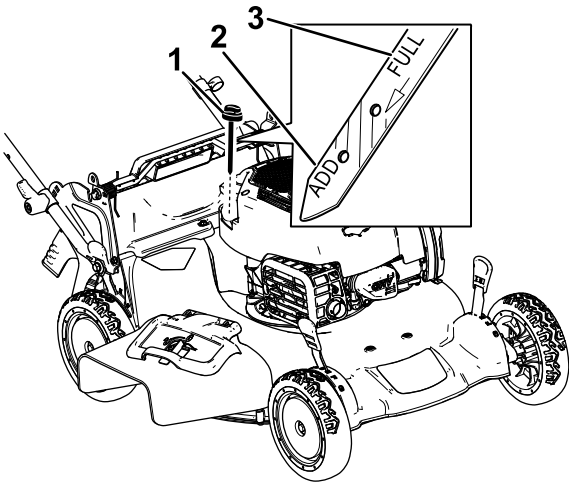

Figure 33
- 3. Remove the dipstick by rotating the cap counterclockwise and pulling it out (Figure 33).
10. Read the oil level on the dipstick (Figure 33).